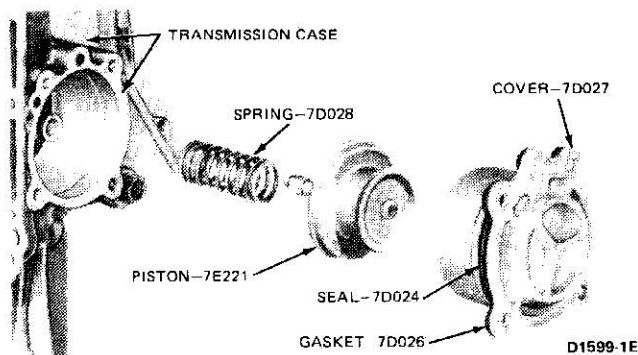

FIG. 5 Servo Disassembled—Typical
9. Replace the complete piston and rod assembly if the piston or piston sealing lips are damaged (Fig. 5).
10. Remove the seal from the cover (Fig. 5).